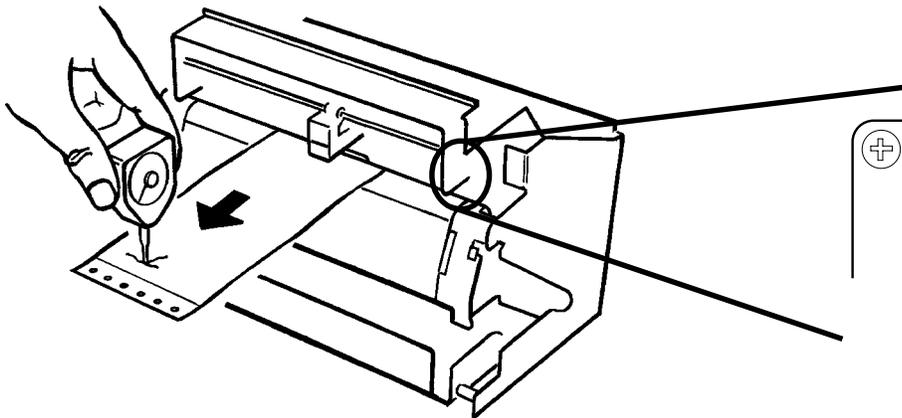

Figure 4 Checking the chart tension
10. Open the cassette, and place a piece of chart paper (as shown in figure 4) such that it is retained between the central tensioning spring and the platen, when the cassette is subsequently closed.
12. Pull the paper forwards using the Correx gauge (figure 4), and ensure that the tension lies between 55 and 65 cN. Adjust if necessary by gently bending the spring out (to increase tension) or in (to reduce tension).